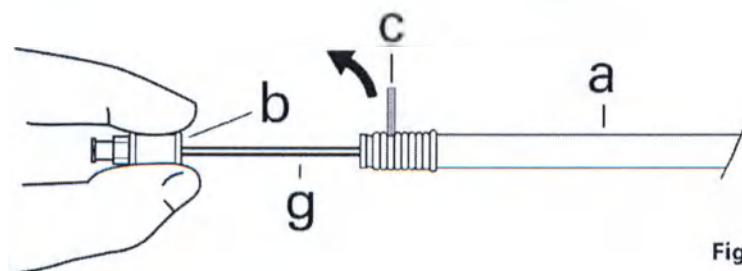

Fig. 5
3. Hold the hub (b) on the metal cannula (g) steady. To deploy the stent, remove the red safety lock (c). (**Fig. 5**)